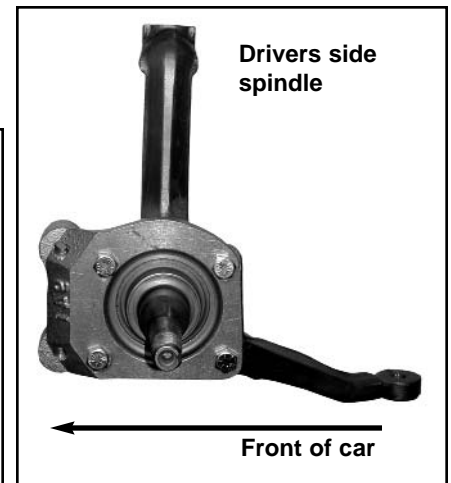

Figure 2
1. Install the caliper bracket onto your clean spindle. The two threaded holes should be inward and toward the front of the car (As shown in Figure 2).